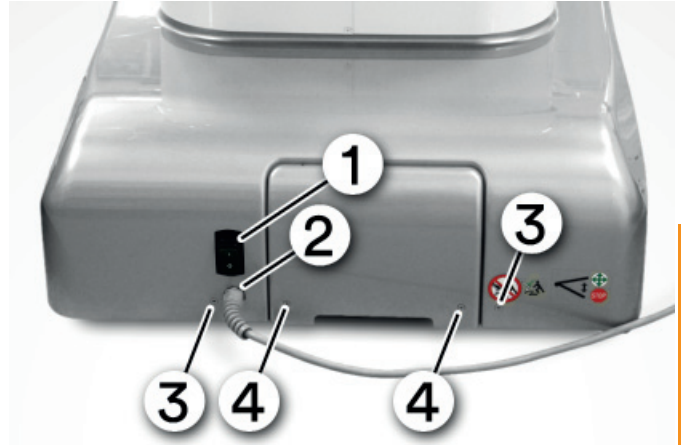

Fig. 10
- ▶ Place the rear foot cladding in the correct position as shown in Fig. 10. The power cord must be routed through the recess in the rear foot cladding.